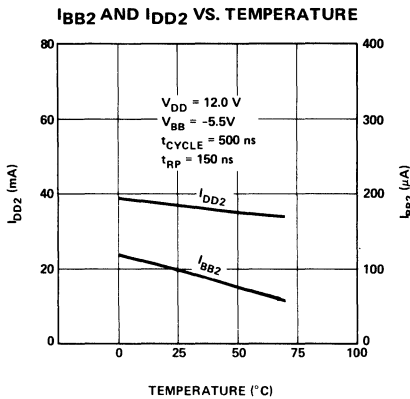

Figure 1.
1. For (\overline{RAS} before \overline{CAS}) use I_{DD2} from Figures 1 and 2.
2. For (\overline{CAS} before \overline{RAS}) multiply I_{DD2} determined in (1) by 0.96.
3. For (\overline{RAS} only) multiply I_{DD2} determined in (1) by 0.78.